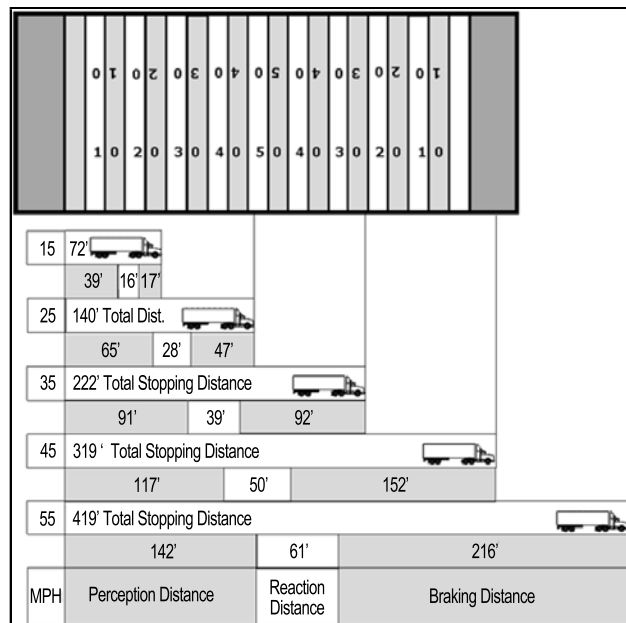

Figure 2.11
- Total Stopping Distance.** The total minimum distance your vehicle has traveled, in ideal conditions, with everything considered, including perception distance, reaction distance and braking distance, until you can bring your vehicle to a complete stop. At 55 mph, your vehicle will travel a minimum of 419 feet. See Figure 2.11.